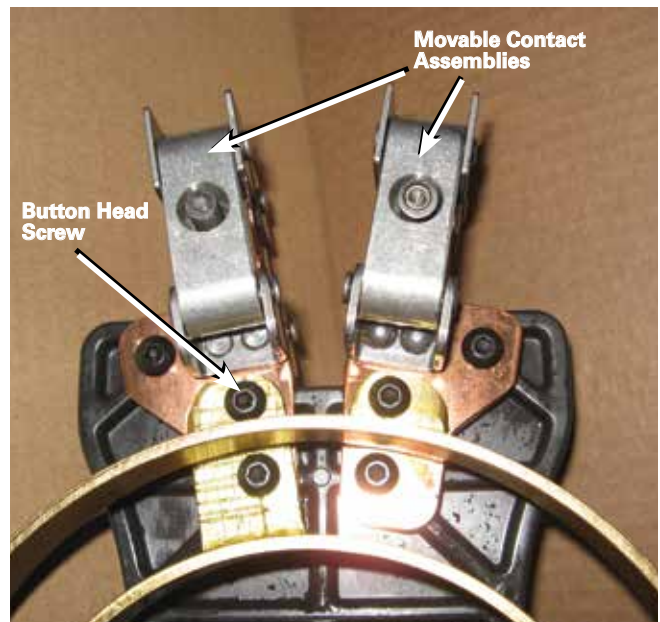

Figure 139. Movable contact removal from insulating arm and rings.
- Remove the three button head screws, nuts and washers that secure each contact to the movable contact panel using a 5/32" hex wrench and a 7/16" deep well socket wrench. Refer to Figures 139 and 140.